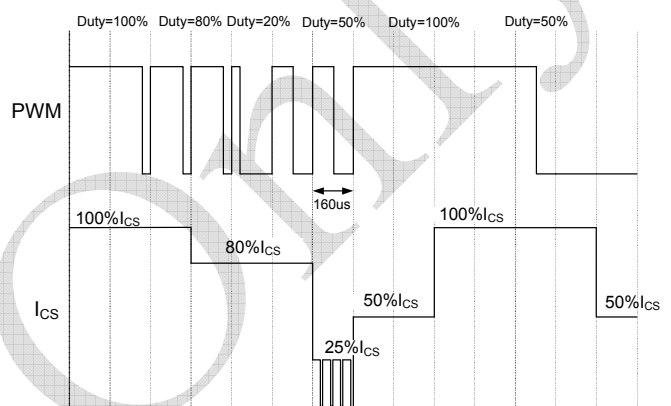

Figure 5. PXM Dimming Timing Chart
For PXM dimming, the device is in PWM to MIX-Mode (Figure 5). In this mode, the PWM signal to I_{CS} dimming cycle is delayed by 2 periods. The first cycle delay is for the duty counter. The second cycle delay is for duty rate calculation.
- (a) When $25\% \leq \text{PWM input duty} \leq 100\%$, the LED output current is DC and the PWM duty cycle modulates the amplitude of the current. See Figure 5.